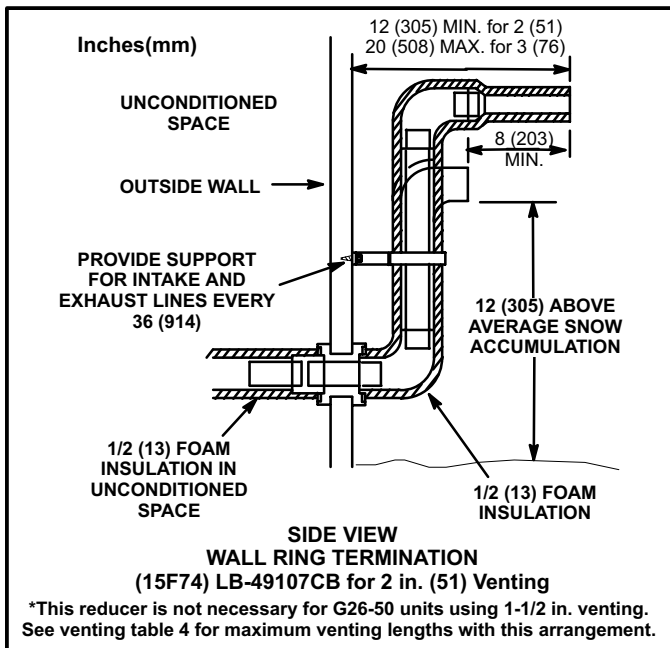
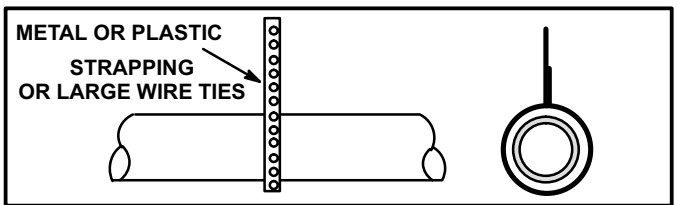
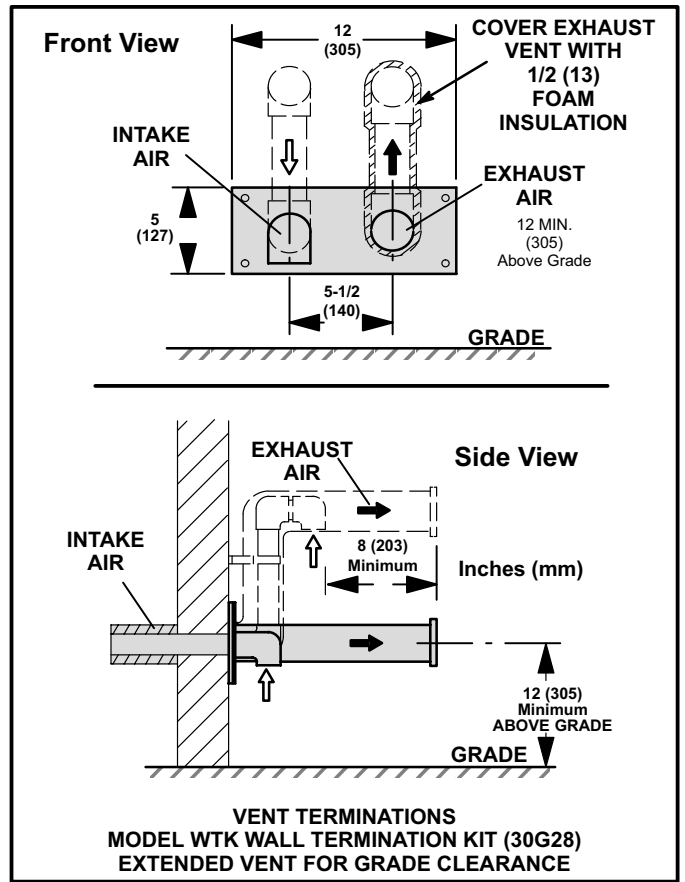

FIGURE 13
FIGURE 15
FIGURE 18
- 8 - If intake and exhaust piping must be run up a side wall to position above snow accumulation or other obstructions. Piping must be supported every 3 feet (.91m) as shown in figure 15. Refer to figures 13 and 14 for proper piping method. WTK wall termination kit must be extended for use in this application. See figure 18 or use kit WTKX shown in figure 19. When exhaust and intake piping must be run up an outside wall, the exhaust piping is reduced to 1-1/2 inches (38mm) after the final elbow. The intake piping may be equipped with a 90° elbow turndown. Using turndown will add 5 feet (1.5m) to the equivalent length of the pipe.